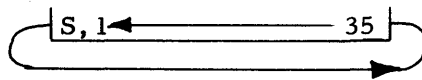

Figure 28. RQL Schematic
The C(MQ) are shifted left the number of places specified by Y. Bits from MQS are routed to MQ35 and from MQ 1 into MQS, in effect, making the MQ register a circular register (Figure 28). For example, RQL 6 takes the six high-order bits (S, 1-5) of the MQ and places them in the low-order six positions (30-35). With the RQL, no bits are lost.